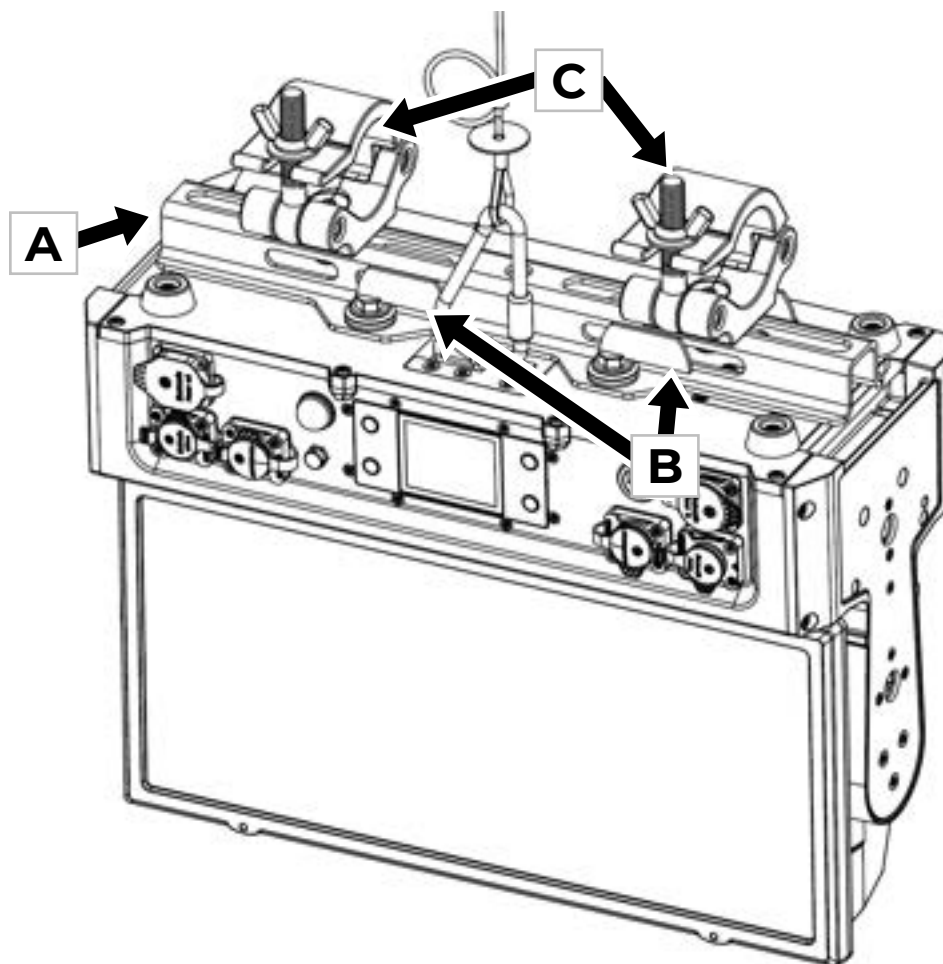

Figure 5. Rigging bracket and clamps
- Second figure 5: Water jets – Protection against water projected from a 6.3mm (0.25 in.) nozzle from any direction.
2. See Figure 5. Bolt two rigging clamps **C** securely to the rigging bracket **A** that is supplied with the fixture using high-tensile steel screws or bolts and self-locking nuts with washers passed through the central slots in the rigging bracket.